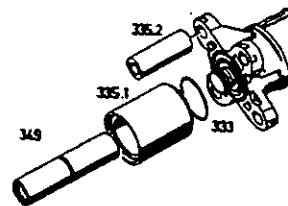

Fig. 50
Fit O-ring (333). Slip on pipes (335.1 and 335.2) (Fig. 50).